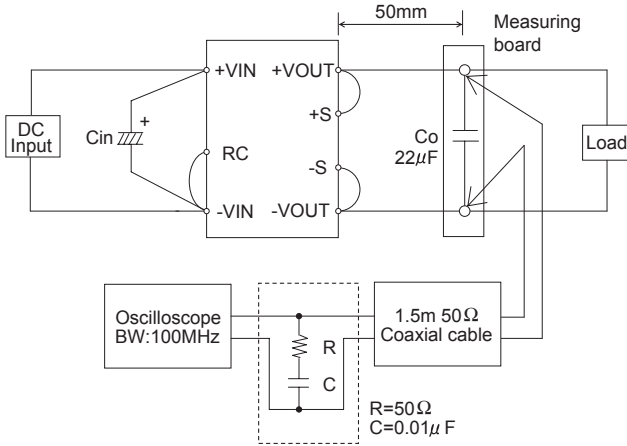

Fig.3.3 Measuring method of Ripple and Ripple Noise
■Ripple and Ripple Noise are measured, as shown in the Fig.3.3.